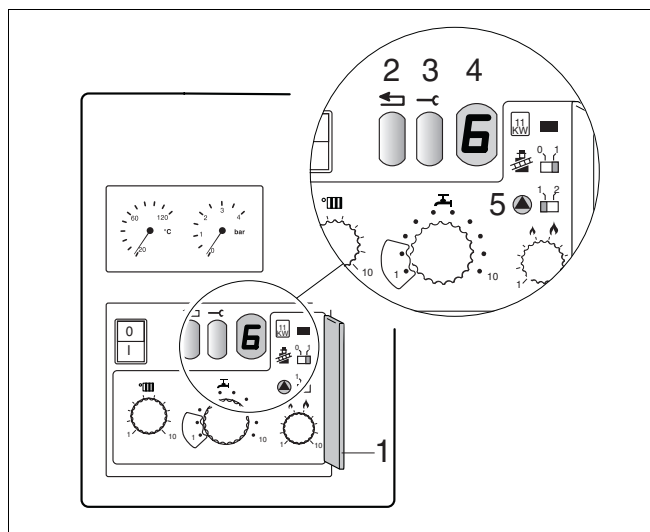

Fig. 9 2nd control box
- Open cover for 2nd control box (fig. 9, item 1).
- Move switch to ▲ position “2” (pump post-purge period 24 h) (fig. 9, item 5).